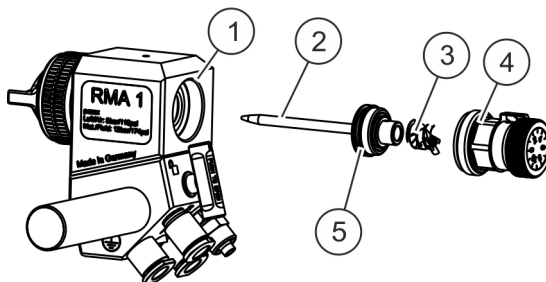

Fig. 11: Removing the material needle
2. ➤ Unscrew the needle stroke adjustment screw (Fig. 11/4).
3. ➤ Remove the pressure spring (Fig. 11/3).
4. ➤ Pull out the control piston (Fig. 11/5) from the main element (Fig. 11/1) together with the material needle (Fig. 11/2).
Remove the material needle (Fig. 11/2) from the control piston (Fig. 11/5).
Insert the new material needle into the control piston (Fig. 11/5).
Push the control piston and the mounted material needle into the main element (Fig. 11/1).
Press in the pressure spring (Fig. 11/3) with the needle stroke adjustment screw (Fig. 11/4).
Tighten the needle stroke adjustment screw (Fig. 11/4).